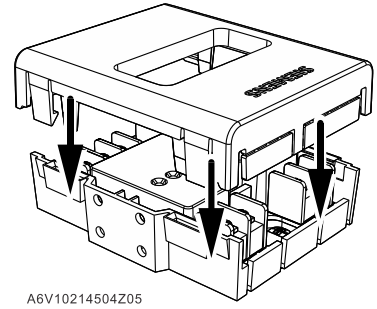

Fig. 3
3. If a top cover is purchased, refer to Fig. 3 for installation.